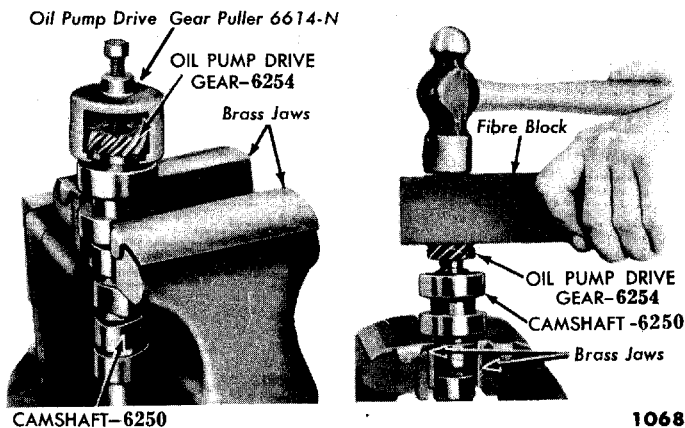

Fig. 34—Removing and Installing Oil Pump Drive Gear
(2) **INSPECTION.** Check the camshaft journal surfaces for grooves or scratches. Check camshaft runout. Replace if not within 0.005 inch. Check the fuel pump eccentric for wear (deep groove worn by the push rod end). Inspect the oil pump drive gear and the distributor drive gear for worn, chipped or broken teeth. Replace the camshaft if it is worn or damaged. Replace the oil pump and distributor drive gears if they are worn or chipped (figs. 34 and 35).